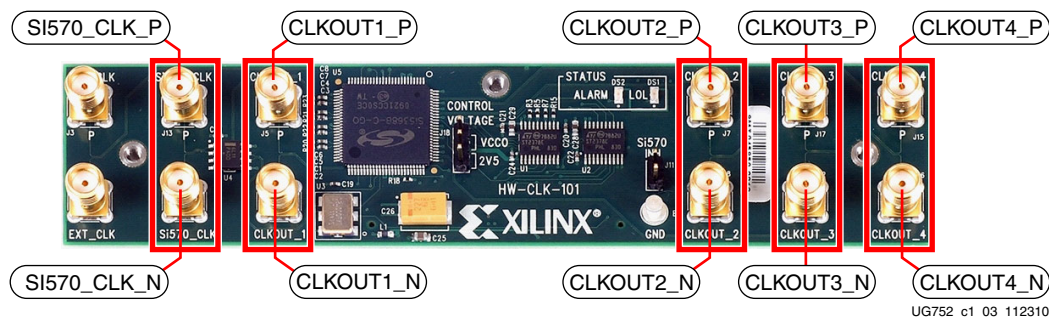

Figure 1-3: SuperClock-2 Module Output Clock SMA Locations
The SuperClock-2 module provides LVDS clock outputs for the GTP transceiver reference clocks in the IBERT demonstration. Figure 1-3 shows the location of the differential clock SMA connectors on the clock module which can be connected to the GTP transceiver reference clock SMAs on the SP623 board. The four SMA pairs labeled “CLKOUT” provide LVDS clock outputs from the Si5378 clock multiplier/jitter attenuator device on the clock module. The SMA pair labeled “Si570\_CLK” provides LVDS clock output from the Si570 programmable oscillator on the clock module. For the IBERT demonstration, the output clock frequencies from both devices are preset to 156.25 MHz. For more information regarding the SuperClock-2 module, refer to UG770, *HW-CLK-101-SCLK2 SuperClock-2 Module User Guide*.
**Note:** The image in Figure 1-3 is for reference only and might not reflect the current revision of the board.